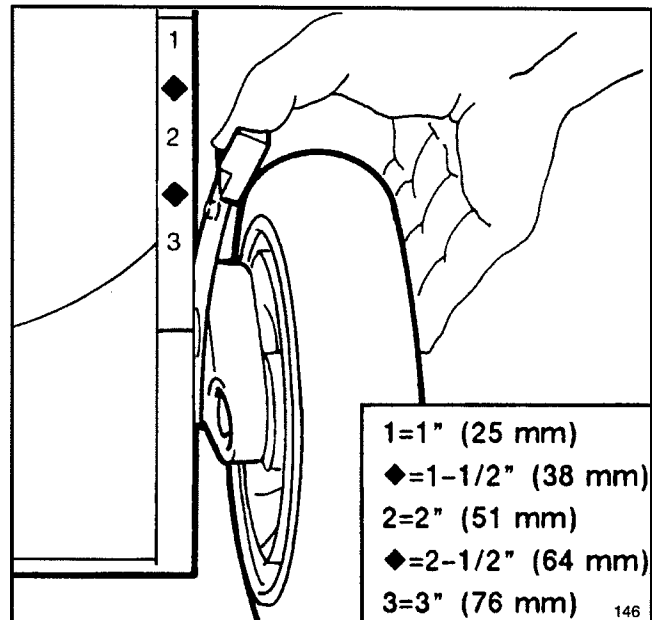

Figure 15
2. For easier adjustment, lift housing up so wheel is off ground. Do not place hands under deck to lift housing. Squeeze adjusting lever toward wheel and move to desired setting (Fig. 15). Ensure pin on adjusting lever engages notch in housing. Adjust all wheels to the same setting.